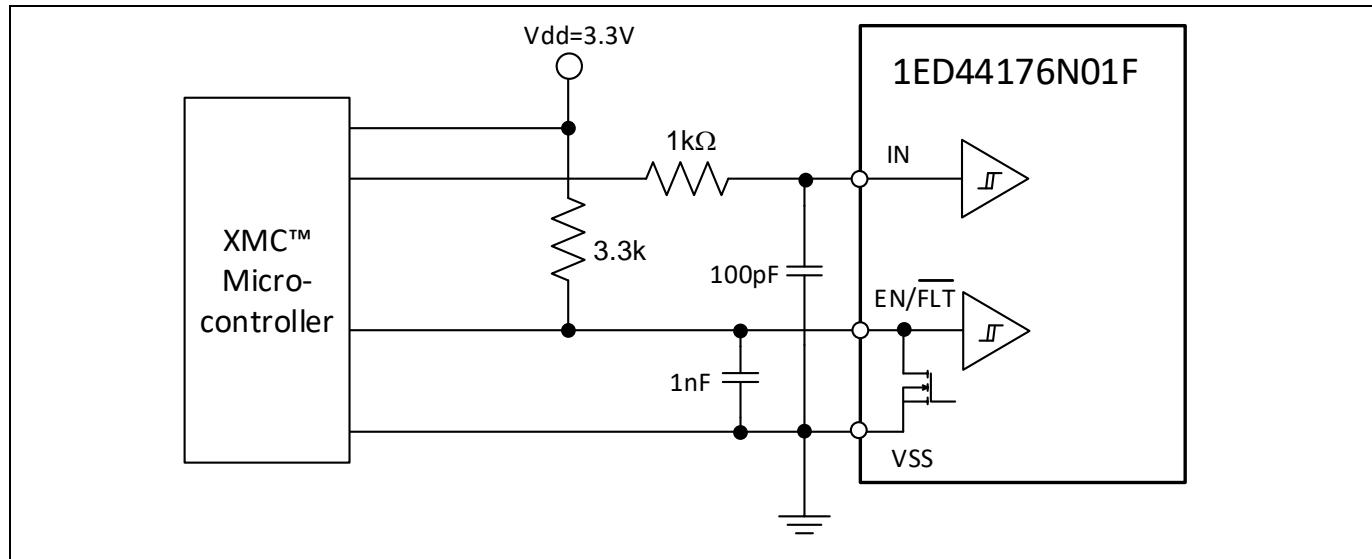
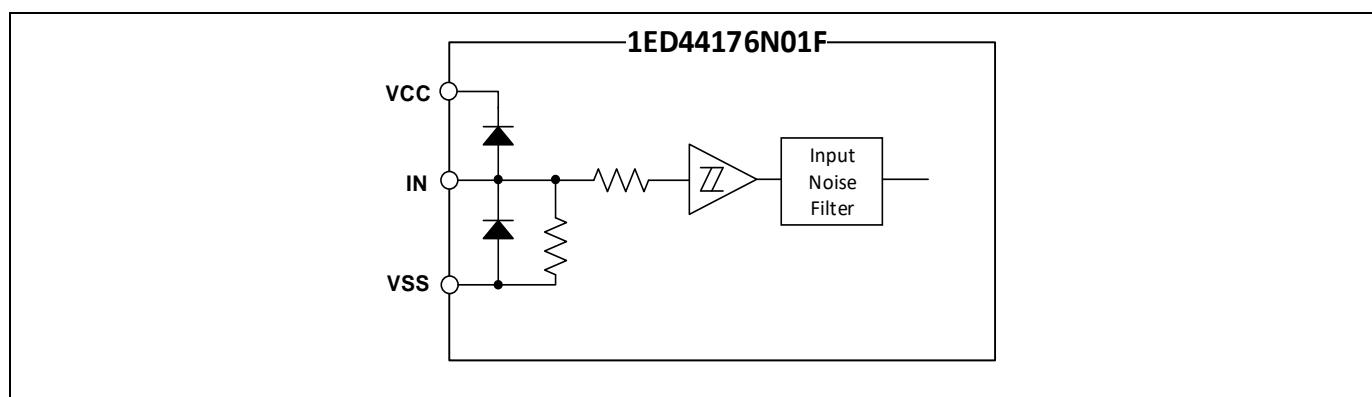

Figure 3 Recommended micro-controller I/O interface circuit
Figure 4 Simplified input structure diagram of 1ED44176N01F
- To prevent signal oscillations, an RC coupling is recommended as illustrated in Figure 3.
Figure 3 shows the I/O interface circuit between a micro-controller (μ C) or digital signal processing (DSP) and the 1ED44176N01F. The 1ED44176N01F input logic is active-high. The EN/FLT output is an open-drain configuration. This signal should be pulled up to high by an external logic power supply with a pull-up resistor. A 3.3k pull-up resistor is recommended if the external logic power supply is 3.3 V.
As shown in Figure 4, the 1ED44176N01F input signal section integrates a pull-down resistor. Therefore, when using an external filtering resistor between the micro-controller output and 1ED44176N01F input, pay attention to the signal voltage drop at the 1ED44176N01F input terminal. It should fulfill the logic "1" input voltage requirement. For instance, $R = 1$ kΩ and $C = 100$ pF are recommended for the parts shown in Figure 3.